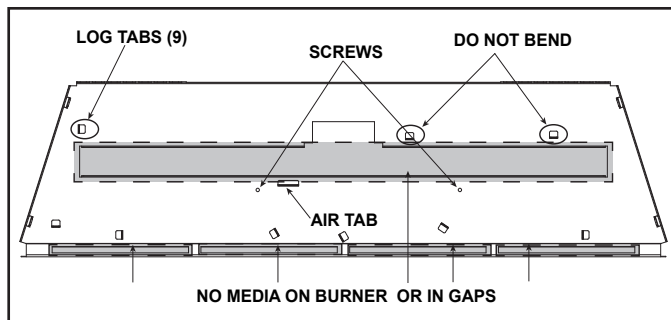
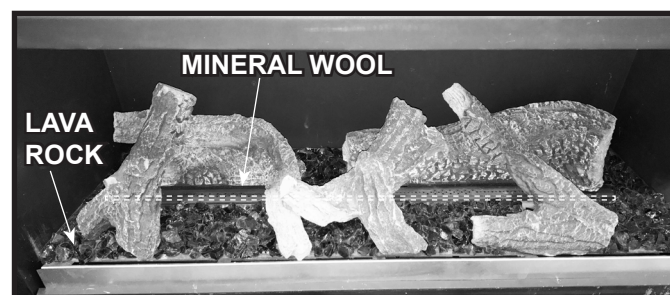

Figure 1 Empty Base Pan
Figure 10 Properly Placed Lava Rock / Location for Mineral Wool
The SLR-X-AU-L utilized (7) tabs. Do not bend the two right rear tabs or the air tab. See Figure 1.
10. Place lava rock onto areas of the base pan to fill in around the logs as desired. It is acceptable to completely cover the base pan. DO NOT cover burner, gaps behind burner, air tab, or block the space in front of the pilot assembly. See Figure 1. Place lava rock in a single layer so no sheet metal is showing. Figure 10 shows lava rock properly placed in relation to logs and areas that must be avoided.